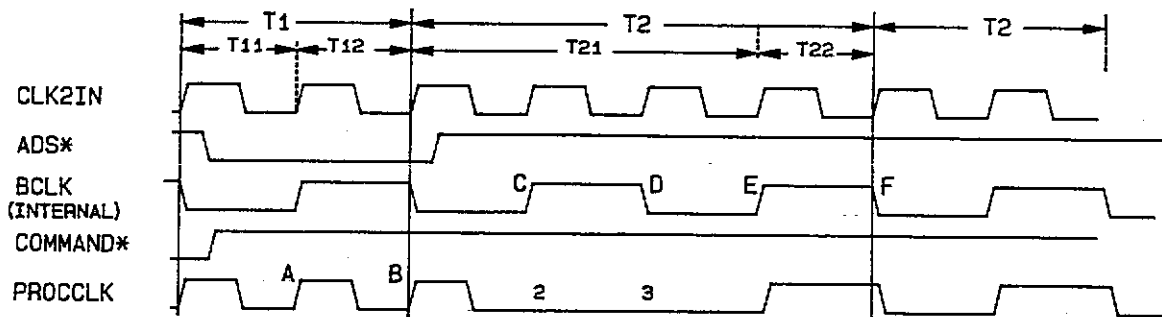

Figure 2.3 Sequence Diagram for High- to Low-Frequency Transition
Figures 2.3 and 2.4 illustrate the sequence of events that switch PROCCLK from high- to low-speed and from low- to high-speed caused by programming the configuration registers. In Figure 2.3, the rising edge (A) of PROCCLK is used to latch the command inactive condition (1). On the rising edge (B), CLK2IN is disabled on the PROCCLK line. This ensures that clock switching occurs when PROCCLK is low. Once CLK2IN is disabled, the first rising edge (C) of BCLK latches this condition as denoted by sequence (2). BCLK then enables itself on the PROCCLK line on the falling edge (D) as denoted by sequence (3). This ensures a glitch free transition between the two clocks. It also does not violate the minimum and maximum 386sx CPU clock specifications. If BCLK is asynchronous with respect to CLK2IN, it is possible that sequence (2) could violate setup time requirements with respect to edge (C). In this case edge (D) registers the state of PROCCLK as still being high in sequence (3). Hence, edge (E) samples PROCCLK to be low and edge (F) enables BCLK on the PROCCLK line. This case does not violate the minimum and maximum 386sx CPU clock specifications.